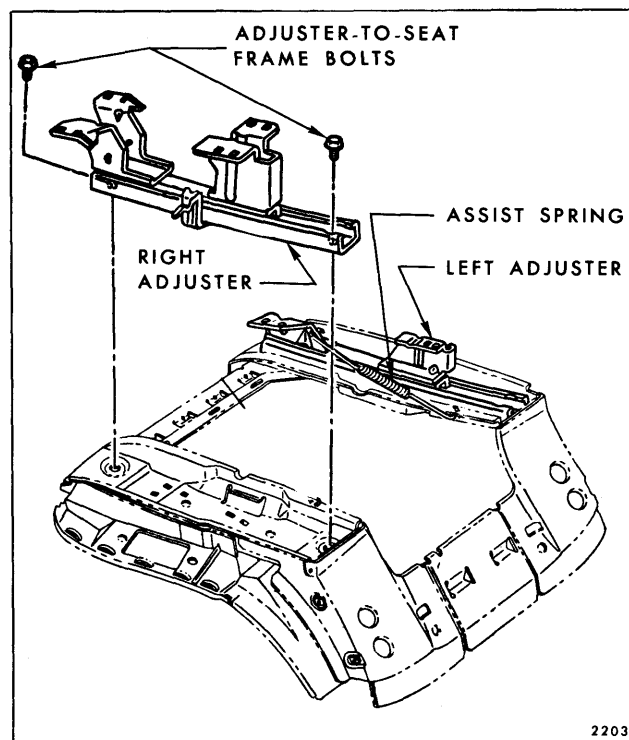

Fig. 15-43—Manual Bucket Seat Adjuster Removal
- If replacing inboard adjuster, remove assist spring (Fig. 15-43).
- Operate adjuster so that both front and rear adjuster-to-seat frame attaching bolts (Fig. 15-43) are accessible; then, remove attaching bolts and remove adjuster from seat assembly.